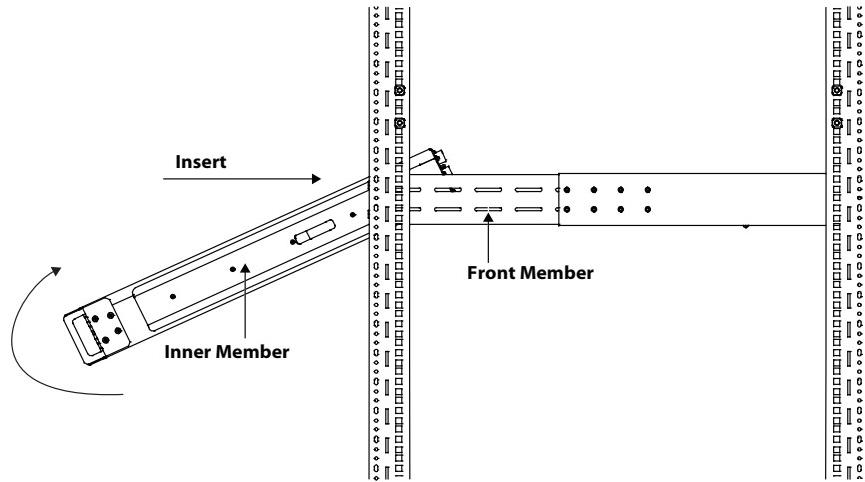

Figure 14: Insert the UPS
- Insert the UPS, with inner members attached, into the bracket assemblies by inserting the top and bottom edges of the inner members into the top and bottom curved tracks of the front members. Slide the UPS into the rack as shown in Figure 14.